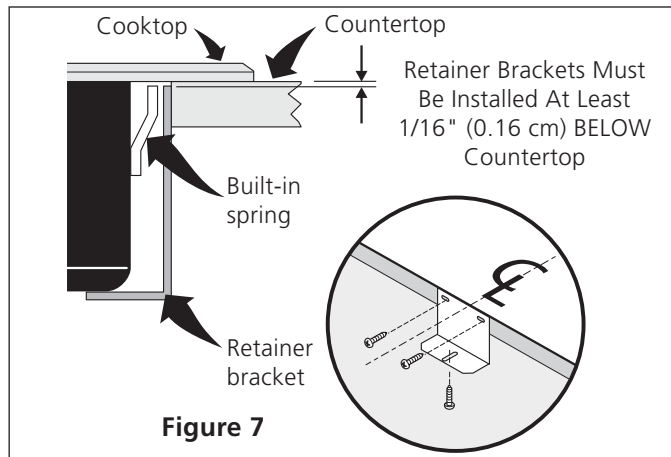

Figure 7
2. Install the retainer brackets (See Figure 7).
The retainer brackets MUST be installed, to meet local codes or, in their absence, with the National Electrical Code ANSI/NFPA No. 70—latest edition, or with CSA Standard C22.1, Canadian Electrical Code, Part 1 (see Figure 7 & 8).